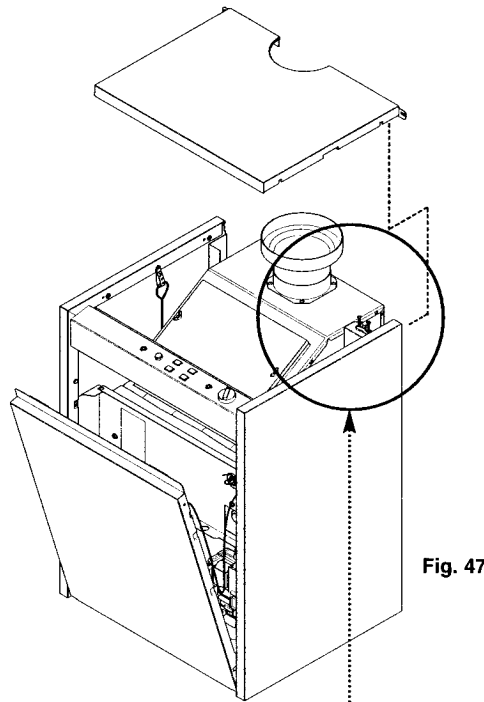

Fig. 47
1. Undo the nut securing the Flue Safety Thermostat to the draught diverter. Ease the cable clamp from the slot in the draught diverter (Figs. 47 & 48).